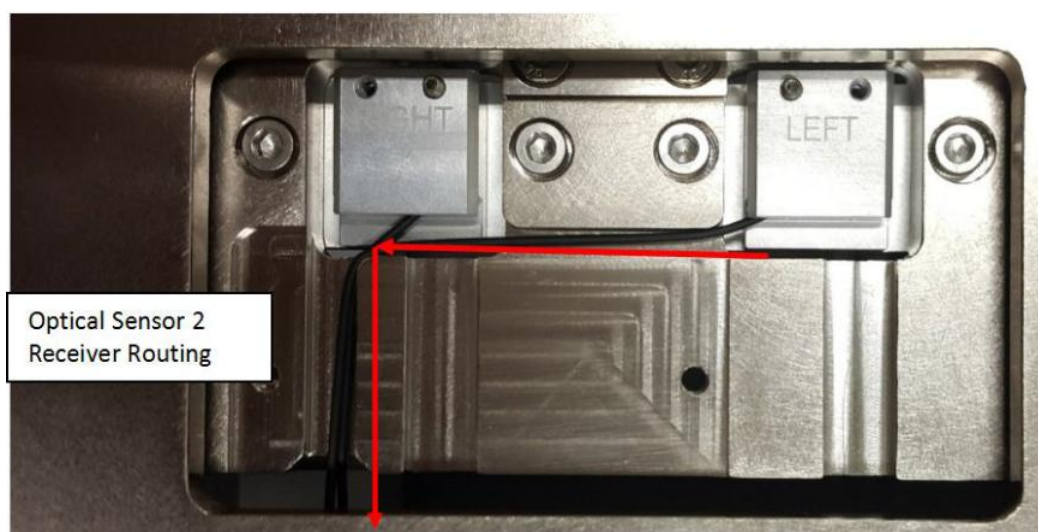

Figure 41 Optical PIP Sensor 2 Routing
6. The routing for Optical PIP Sensor 2 Receiver is as shown in Figure 41.